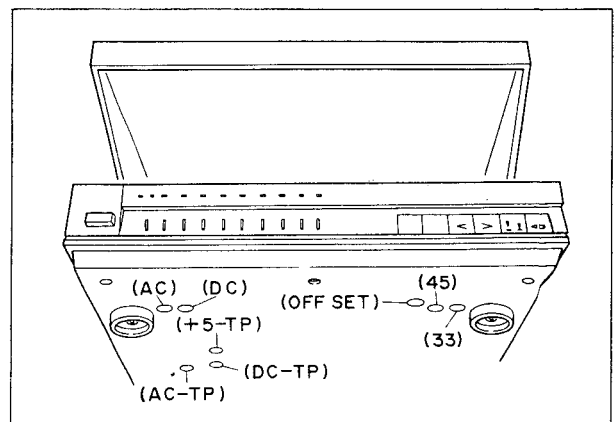

Fig. 9
3. Connect an AC voltmeter (AVERAGE METER) between (+5-TP) and (AC-TP) as shown in Fig. 9.